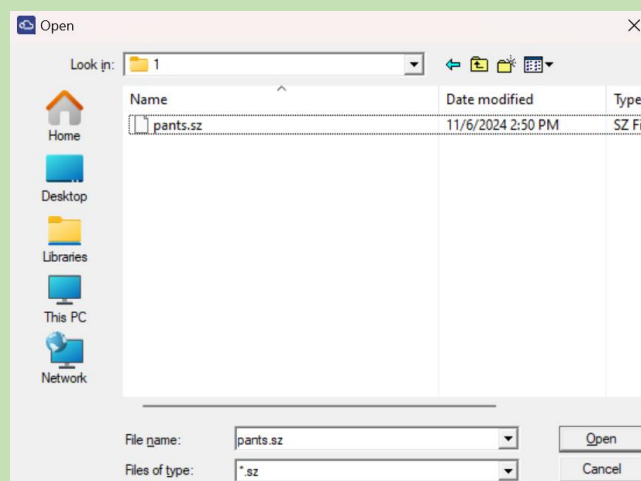

Figure 3-3
3. Open: open the commonly used size chart parts in SZ format.  (Figure 3-3)